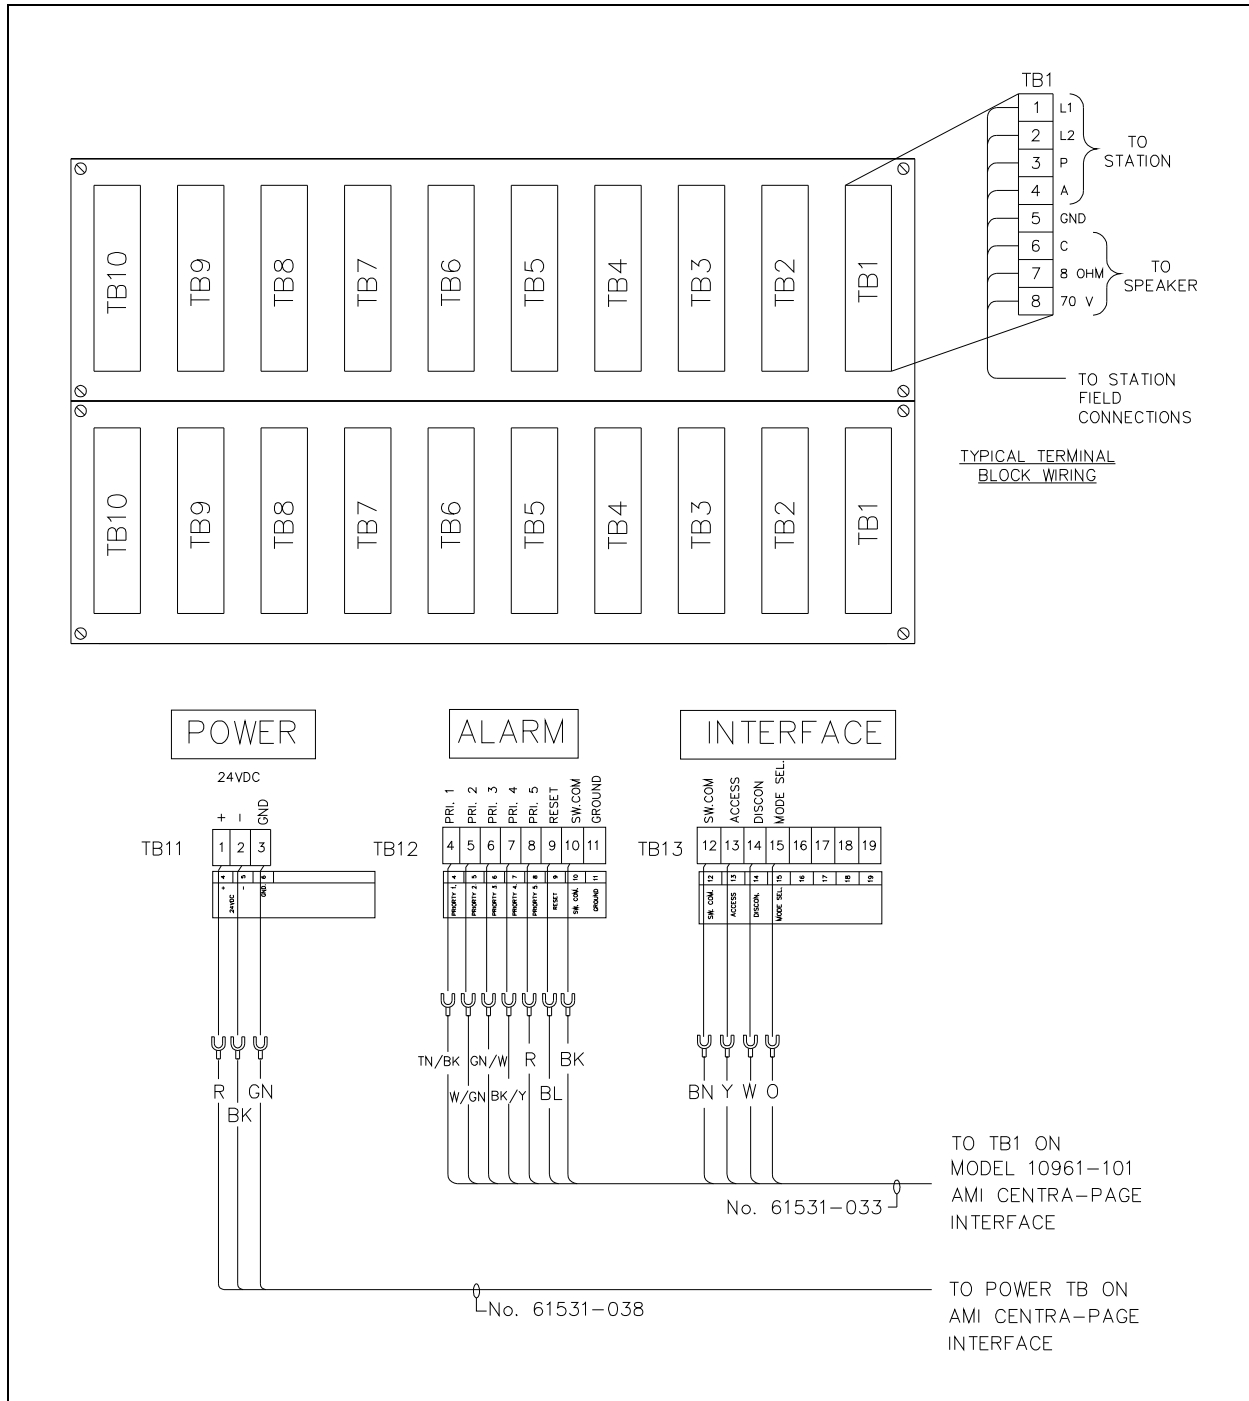
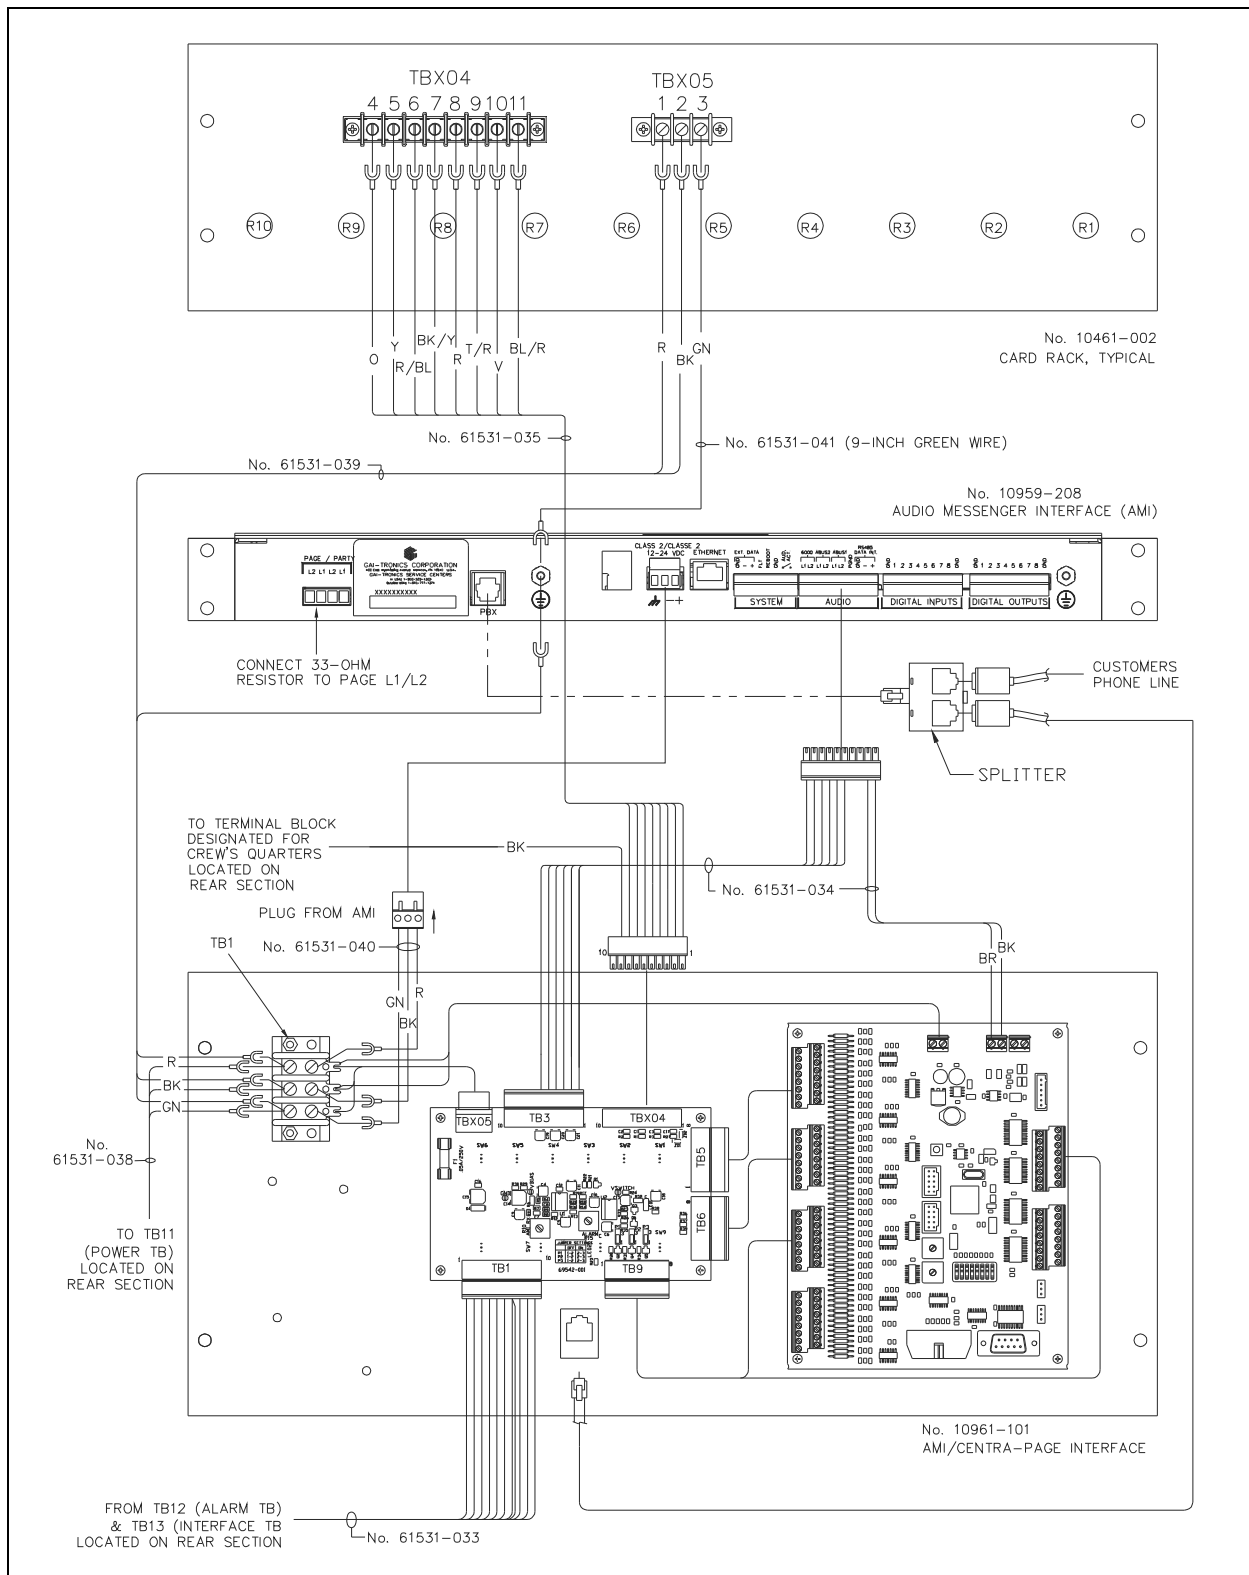

Figure 4. Terminal block connections on the central cabinet's wall-mounted rear section
Figure 5. Terminal block connections on the rear of the central cabinet's center section (shown fully-loaded for clarity)
5. Connect the individual handset stations (L1, L2, P, A) and the paging speakers (C, 8 ohm, 70 V) to the terminal blocks in the wall-mounted rear section of the Model 10468-002 Central Cabinet. The three rows of ten terminal blocks can support a total of 30 stations. Refer to Figure 4 for an example of the typical terminal block wiring connections.
6. Make the necessary connections to the three terminal blocks located in the rear wall-mounted section of the central cabinet labeled **POWER**, **ALARM**, and **INTERFACE**. Refer to Figure 4 and Figure 5 for the wire color-coding. Their functions are as follows: